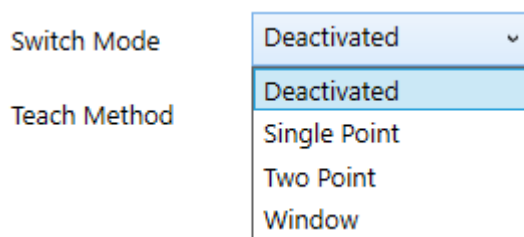

Figure 126. Switch Mode / Teach Mode
Select either of the following options from the “Switch Mode” or “Teach Mode” drop-down list to define how Setpoints (SP) are interpreted in the context of switching behavior (Figure 126):